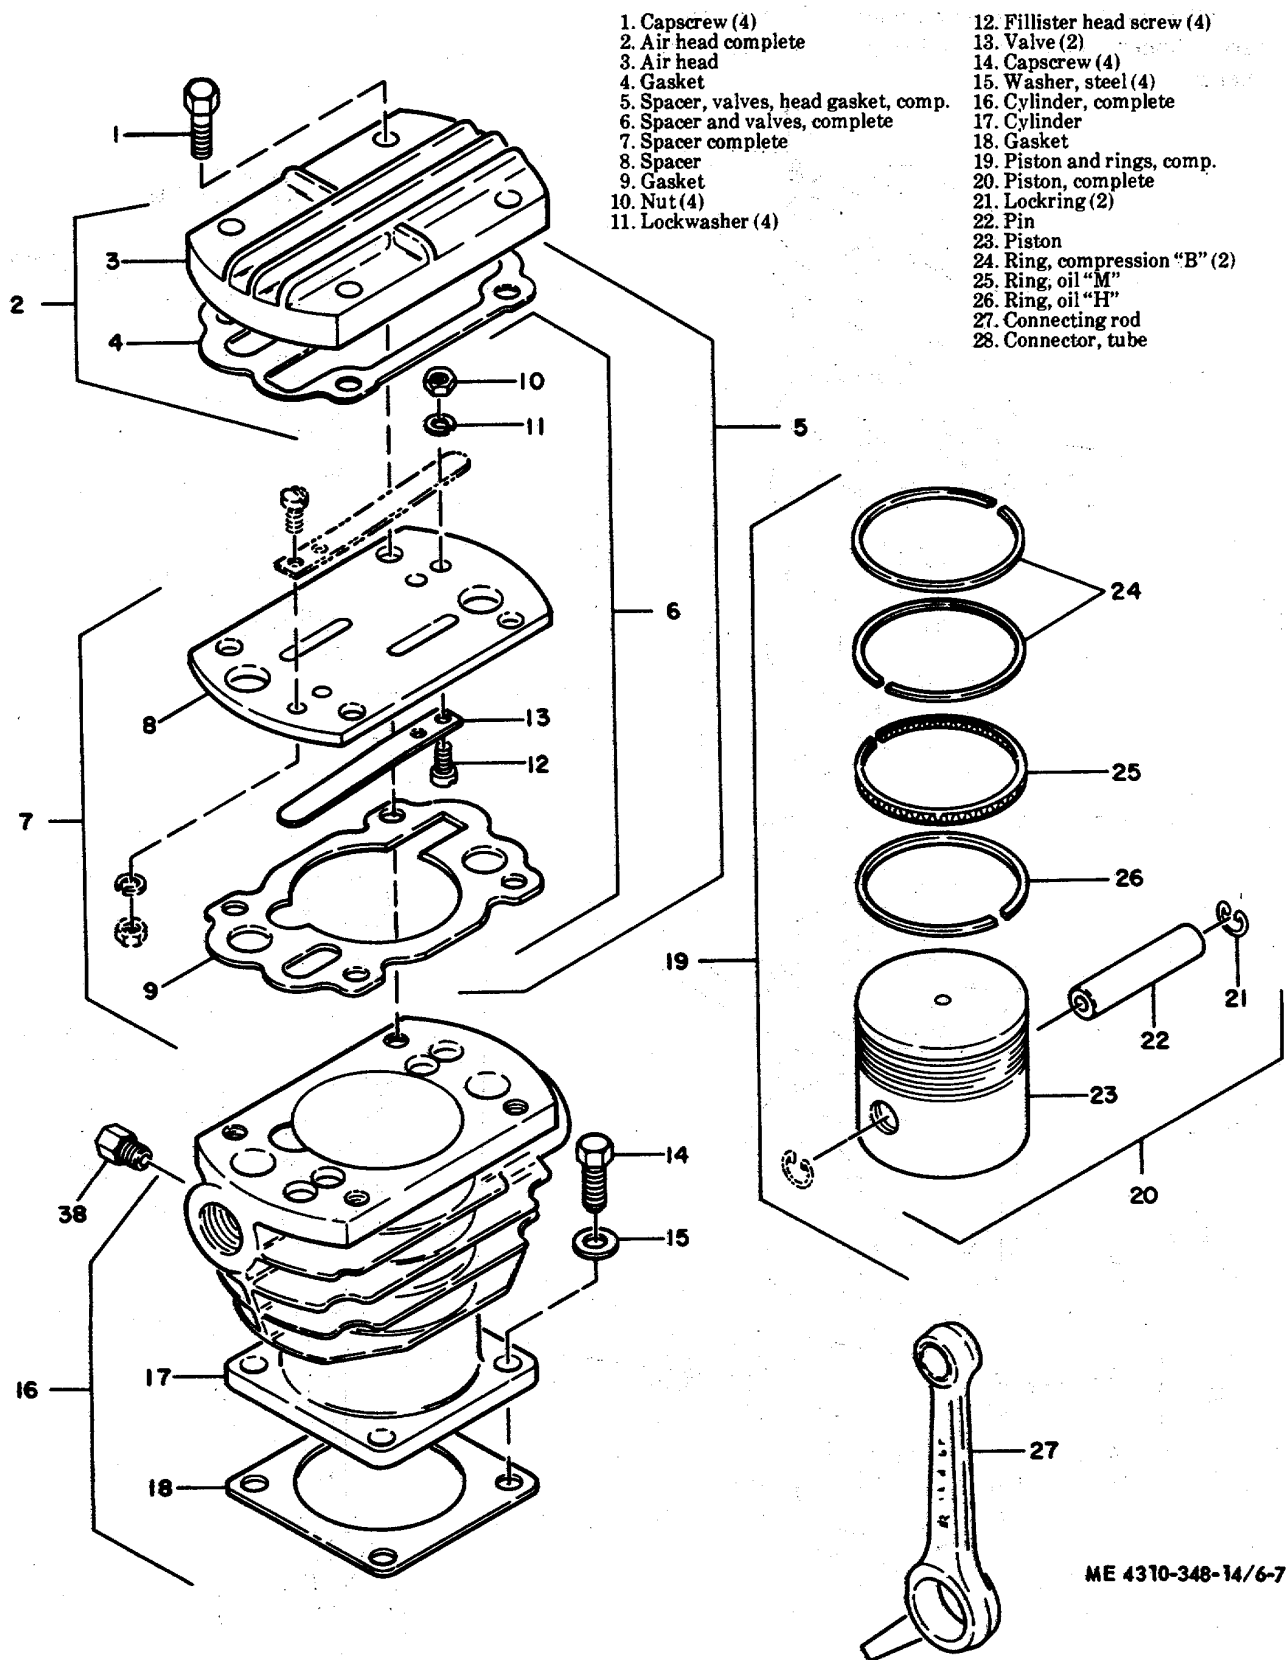

Figure 6-7. Low pressure cylinder, piston, rod, and rings removal
(3) Refer to figure 6-7 and remove the low pressure cylinder, piston, rod, and rings, in numerical sequence.
(6) Before installing rings, see that all ring grooves are lubricated with compressor lubricating oil.
(7) Install ring (23) in bottom groove of piston (20). Install the expander in groove first, before ring (22), in the second groove from bottom of piston, then install rings (21) in the second groove from top, and the top groove of piston (20). Move end gap at all rings of set until they are staggered at 90° to each other.
(8) Position cylinder gasket (15) on frame, then position cylinder (14) over piston (20) and press in on rings until they slip into the tapered bottom of the cylinder. It is recommended that a ring compressor be used at this time to avoid distorting or breaking the rings. Seat cylinder on gasket, then install steel washers (12) and capscREW (11). Tighten to a torque value for size given in table 1-1.
(9) Install gasket (8), spacer (9) and valve plate (10). Install two gaskets (4) and air head (3), then install capscREWS (1) and tighten to a torque value given for the size in table 1-1.
(10) Install connecting rod (27, fig. 6-7) on crankshaft crank pin bushing. Check that clearance is between 0.001 and 0.002 in. (table 1-2). After checking clearance between pin (22) and rod (27), a close tolerance of between 0.0002 and 0.0007 in., if satisfactory install pin (22) through rod (27) and piston (23), then secure pin with lockrings (21).
(11) Fill oil ring grooves of piston (23) with compressor lubricating oil. Place ring set in cylinder (17) bore, then measure end gap. It should measure between 0.005 and 0.015 in. If satisfactory, install ring (26) in bottom groove of piston (23). Install ring (25) in the second groove from the bottom. Install one ring (24) in the second groove from the top, and the other ring (24) in the top groove. Turn end gaps of rings until they are 90° from each other.
(12) Lubricate bore of cylinder (17); position gasket (18) over rod (27) to fit on frame. Position cylinder (17) over piston and rings, press in on rings until they slip into the tapered skirt of the bore. It is recommended that a ring compressor be used for this purpose to avoid distorting or breaking the rings. Install steel washers (15) and capscREWS (14). Tighten to a torque value given for the size in table 1-1.
(13) Install valves (13) and secure with fillister head screws (12), lockwashers (11), and nuts (10). Install gasket (9), spacer and valves complete (6), gasket (4), and air head (3). Secure with four capscREWS (1). Tighten to a torque value for the size given in table 1-1. Install connector (28) in cylinder (17).